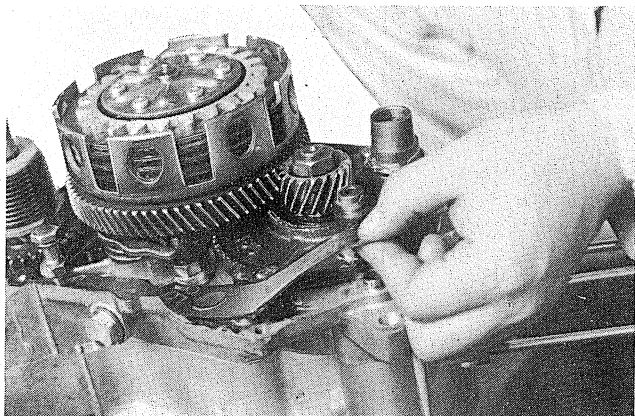

Fig. 3-7-5
- 4) Replace the crankcase cover gasket, if damaged. (Fig. 3-7-5)